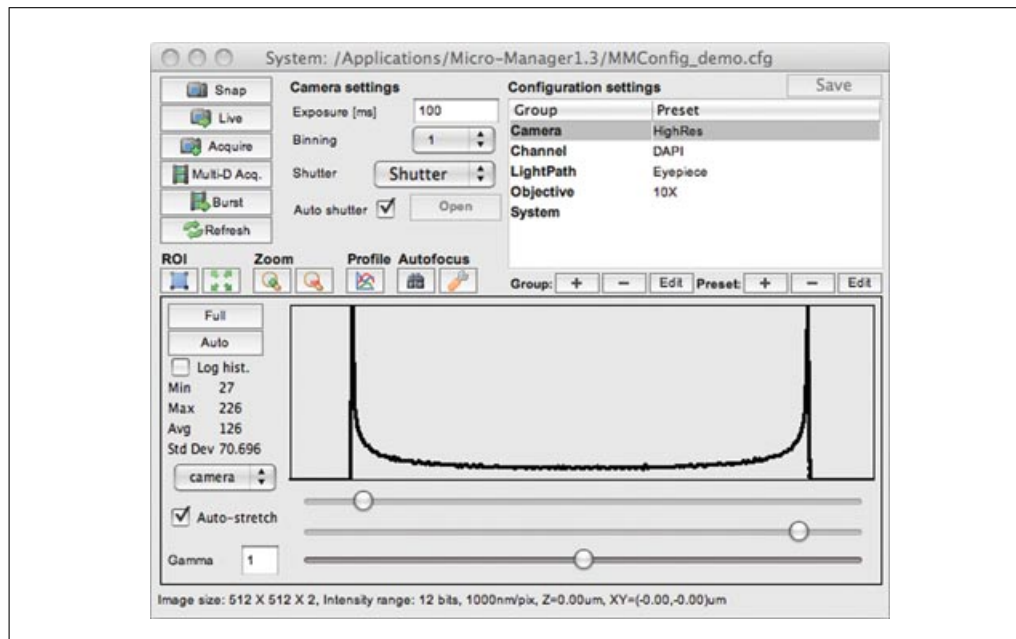

Figure 14.20.1 The main μ Manager window, where the application's primary controls are located.
3. The main μ Manager window (Fig. 14.20.1) serves two functions: the top half lets the user snap images, control the state of the microscope system, and set up experiments. The bottom half of the main window shows a histogram of the last acquired image, and has tools that allow adjustment of contrast and brightness on the image display. The top left quadrant of the window contains controls to set the camera exposure time, binning (grouping of camera pixels before camera readout), the shutter to be used (for those systems that have multiple shutters), and whether or not the software will automatically open the shutter before a camera exposure and close it afterwards (autoshutter check box). When the autoshutter feature is turned off, toggle the state of the active shutter with the main window's open/close button.